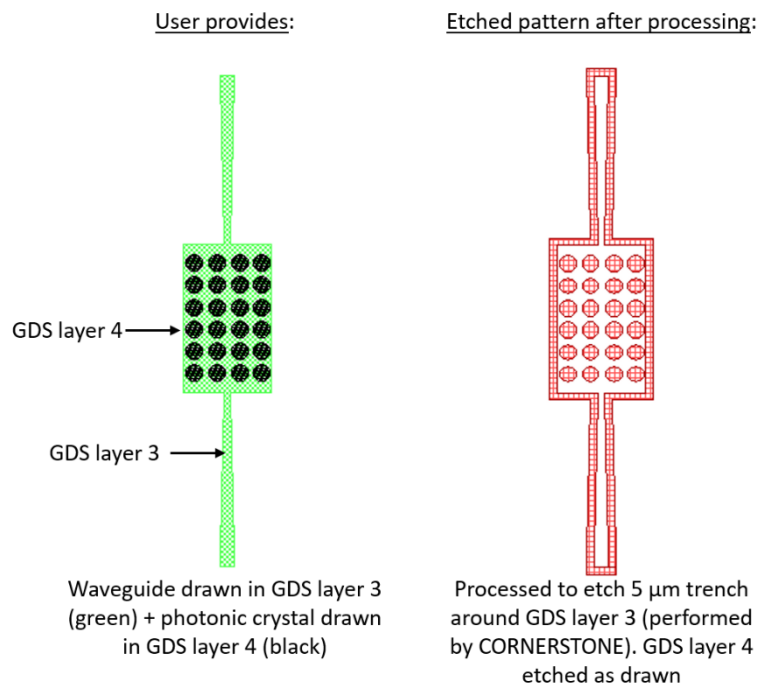

Figure 2 – Example photonic crystal structure using GDS Layers 3 & 4.
**GDS Layer 4:** Drawn objects on this layer will be exposed to the 300 nm silicon etch. An example photonic crystal structure is shown in Figure 2. The important thing to note here is that the waveguide layer drawn in GDS layer 3 should overlap the structures drawn in GDS layer 4, so that when the 5  $\mu\text{m}$  trenches are generated by CORNERSTONE, a continuous waveguide remains.